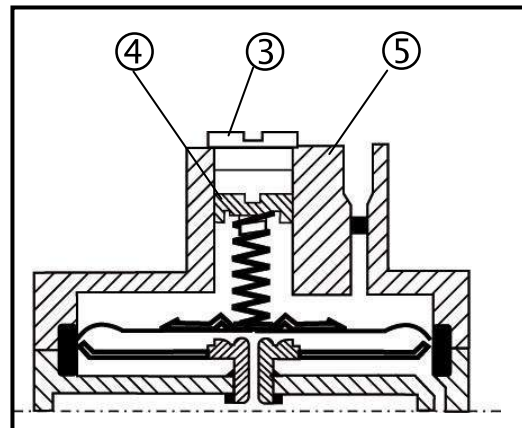

Fig. 2: Sectional view of the valve with set screw
- ⇒ Remove the sealing screw on the pressure regulator (**3**) and turn the adjustment screw (**4**) until the screw is flush with the valve housing (**5**) (Fig. 2).